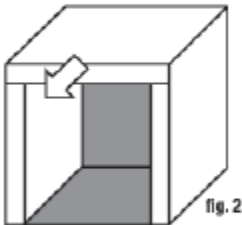

fig. 2
- Install the TUFCOTE® TBK Faced Foam to the inside of the housing and over the vibration control tape (Figure 2).